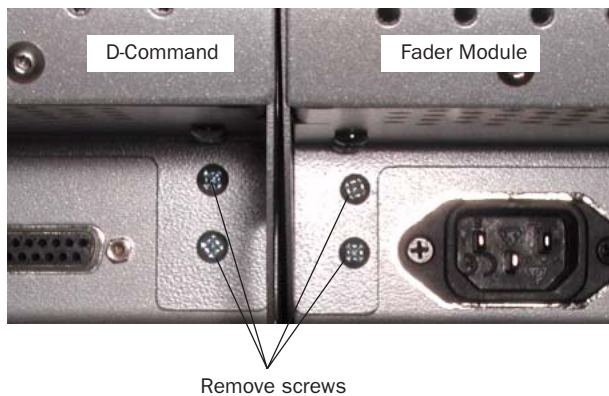

Figure 4. Rear view of D-Command and Fader Module
- 6 Remove the four Philips head screws indicated in Figure 4.